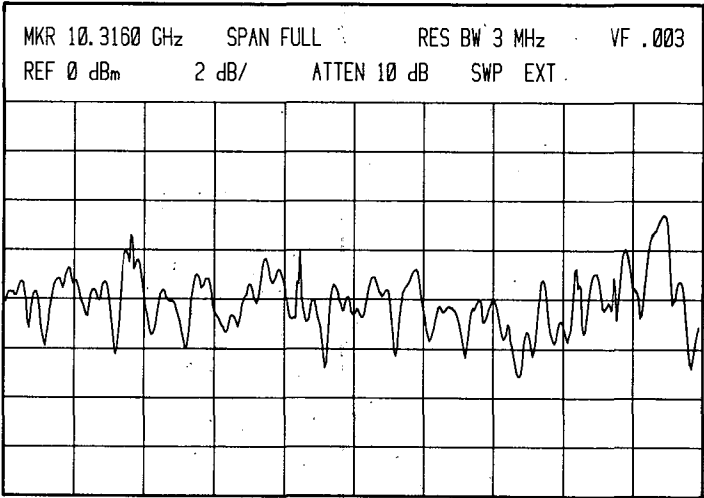

Figure 5-48. Phase Locked Spectrum Analyzer CRT Display (10.5–18 GHz)
- 11. Adjust A20R105 V6 over full range and note position for minimum ripple on CRT trace. Set A20R105 V6 for minimum ripple (see Figure 5-48).